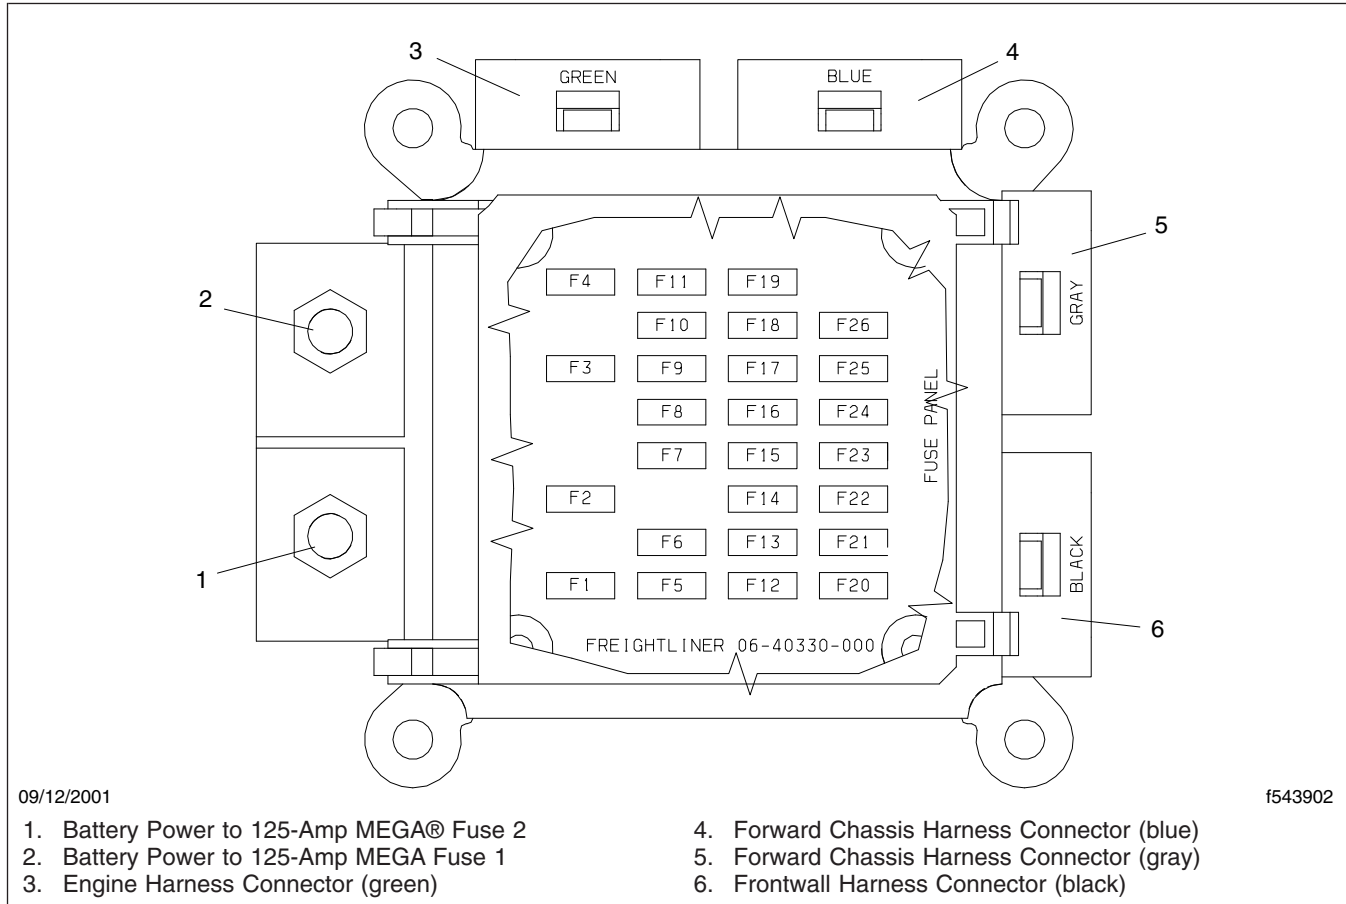

Fig. 2, Main PDM Fuse Panel Layout and Connections
4. Remove the nuts and washers that attach the battery cables to the power studs, then remove the battery power cables from the PDM. See Fig. 2.